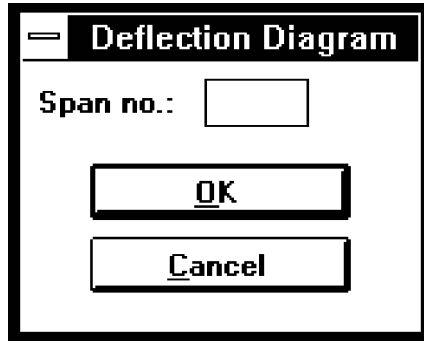

Figure 4-30—The Deflection Diagram dialog box
- From the **View** menu, select **Deflection Diagram**. The dialog box of Figure 4-30 appears.